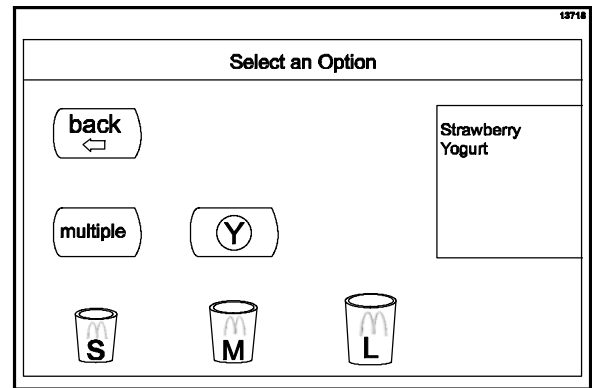

Figure 13
3. The next screen to display will indicate the name of the selected product on the right side of the screen. (See Smoothie screen example in Figure 13.)